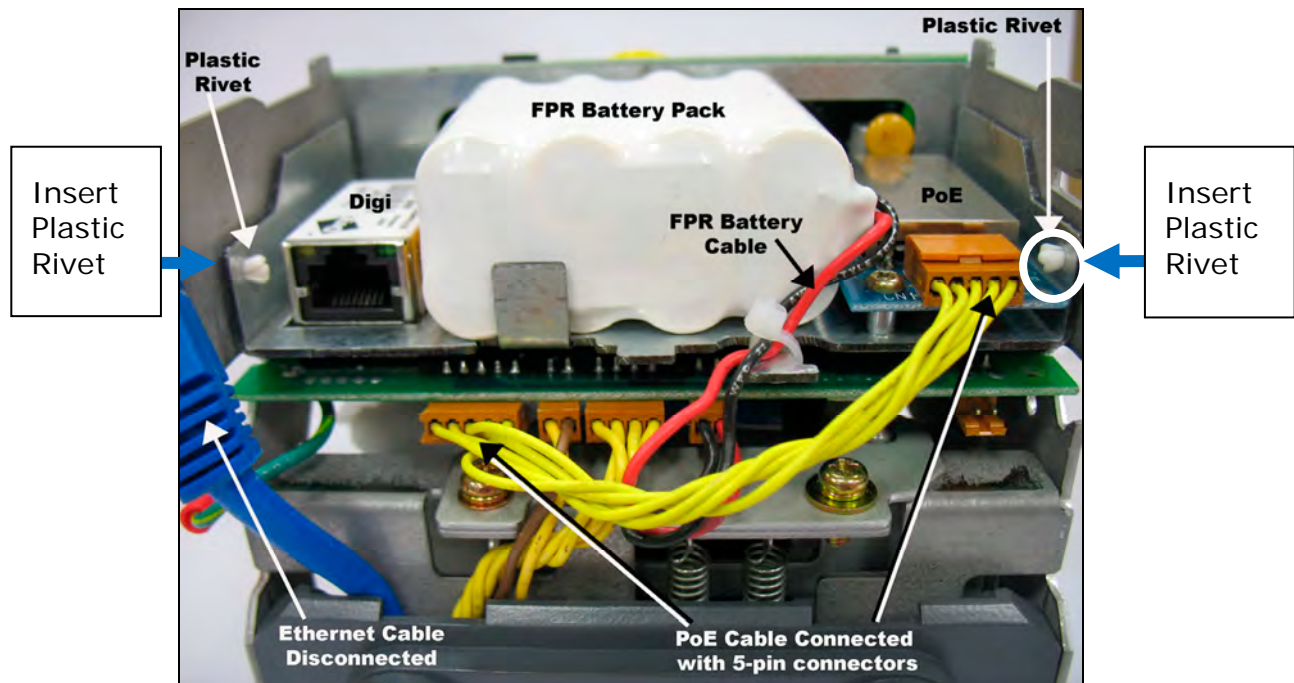

Figure 4. Auto-Sync Time Clock Rear View.
8. Carefully insert the PoE/FPR mounting bracket with the FPR battery pack and PoE PCB. The mounting bracket will fit only one way as it has a cutout that must slip over the rectangular shaped network connector (see *Figure 4*).
10. Install the two plastic rivets (1 per each side) as illustrated in *Figure 4* through the side of the clock frame into the proper locating hole in the FPR mounting bracket.
11. Remove the rear wall mounting plate (see Wall Mounting in the Operation Guide). Disconnect the AC power connector from the PCB (red & white wires – see *Figure 4*).